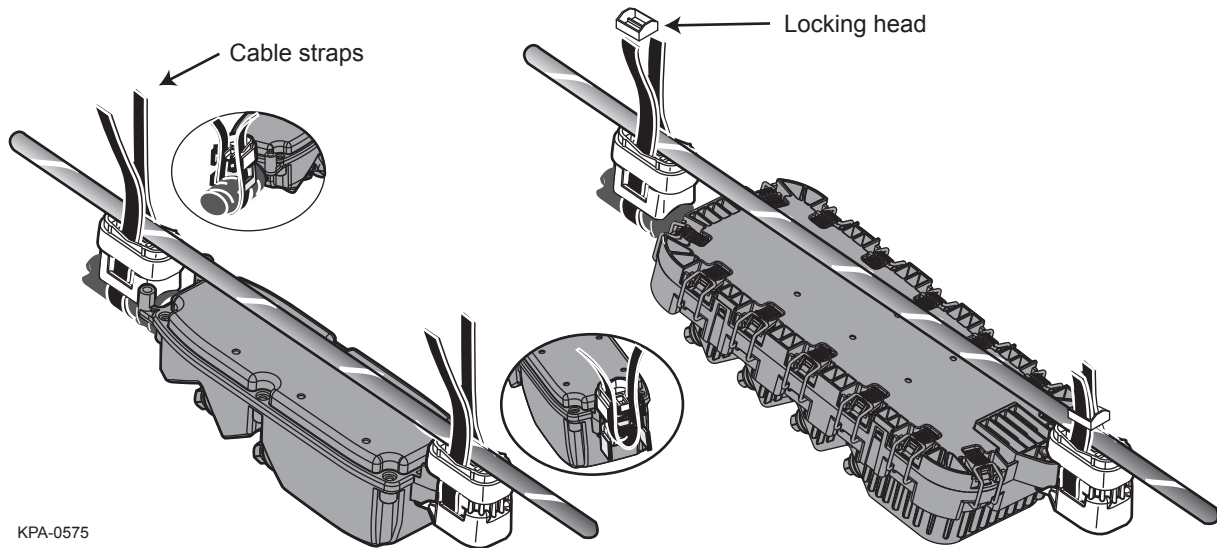

Figure 5
Step 2: Run cable straps through one side of the spacers and back through the other side of the mounting adapters and spacers, then secure the terminal to the strand (Figure 5).